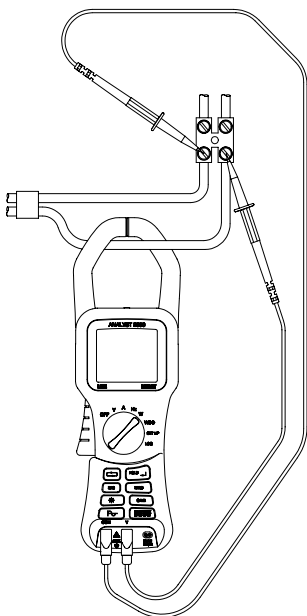

Fig. 4
- Press the trigger to open the jaws, and clamp them on the current carrying conductor, as shown in Fig. 4.
- When configured to measure power (Fig. 4) with the test leads connected and the jaws clamped around a current carrying conductor, the instrument displays the frequency of the current source (providing ARMS > 10A). If ARMS < 10A, a volts frequency measurement will be made (providing VRMS > 1V), otherwise ---.- will be displayed.